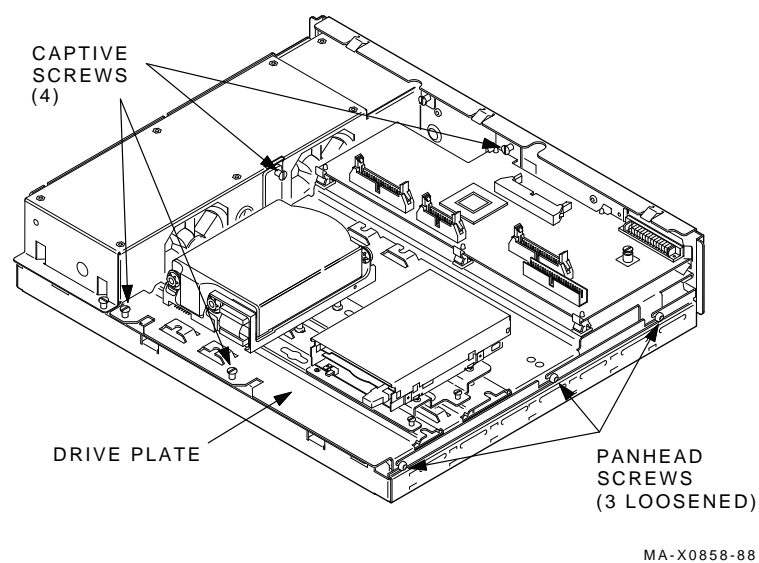

Figure 6-4 Removing the Drive Mounting Plate
3. Unscrew the four captive screws, loosen the three panhead screws (Figure 6-4), and slide the plate forward and up off the system box. Set the plate aside.